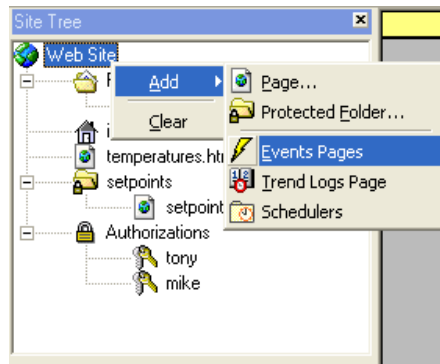

Figure 192: Adding Events Pages
1. Right-click Web Site and select Events Pages from the Add menu. The Events folder appears in the Site Tree (Figure 192).